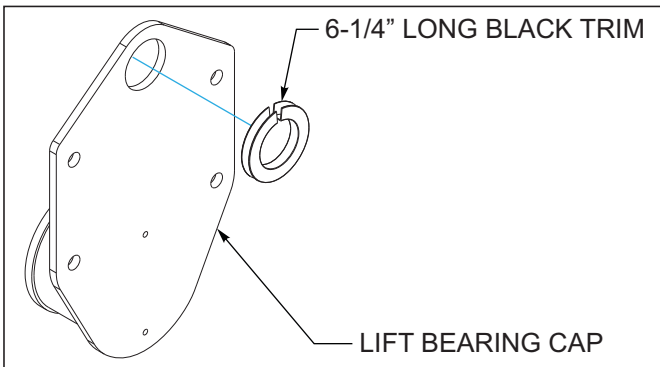

Figure 3-8: Trim Installation
1. Install a 6-1/4" long piece of black trim in the top hole of the lift bearing caps. Outer wing bearing caps do not require trim. Route lift hydraulic hoses through bearing caps between frame sections *See Figure 3-8.*